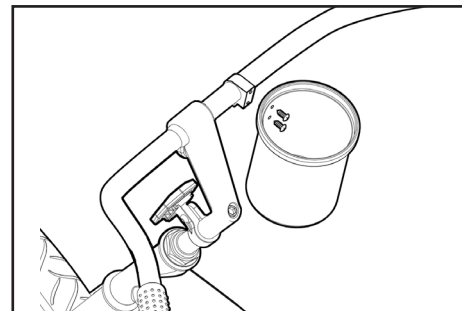

Figure 41
To install the cup holder onto your handlebars, loosen and remove the screw on the cup holder mount using the (A) Standard Phillips Head Screwdriver. Gently pull the mount open until it can slide over the grip onto the handlebars, then reinsert and retighten the screw. Line up the holes on the cup holder with the holes on cup holder mount, and then use the appropriate (C) Allen Wrench to insert and tighten the bolts to secure the cup holder to the mount (see Figure 41).